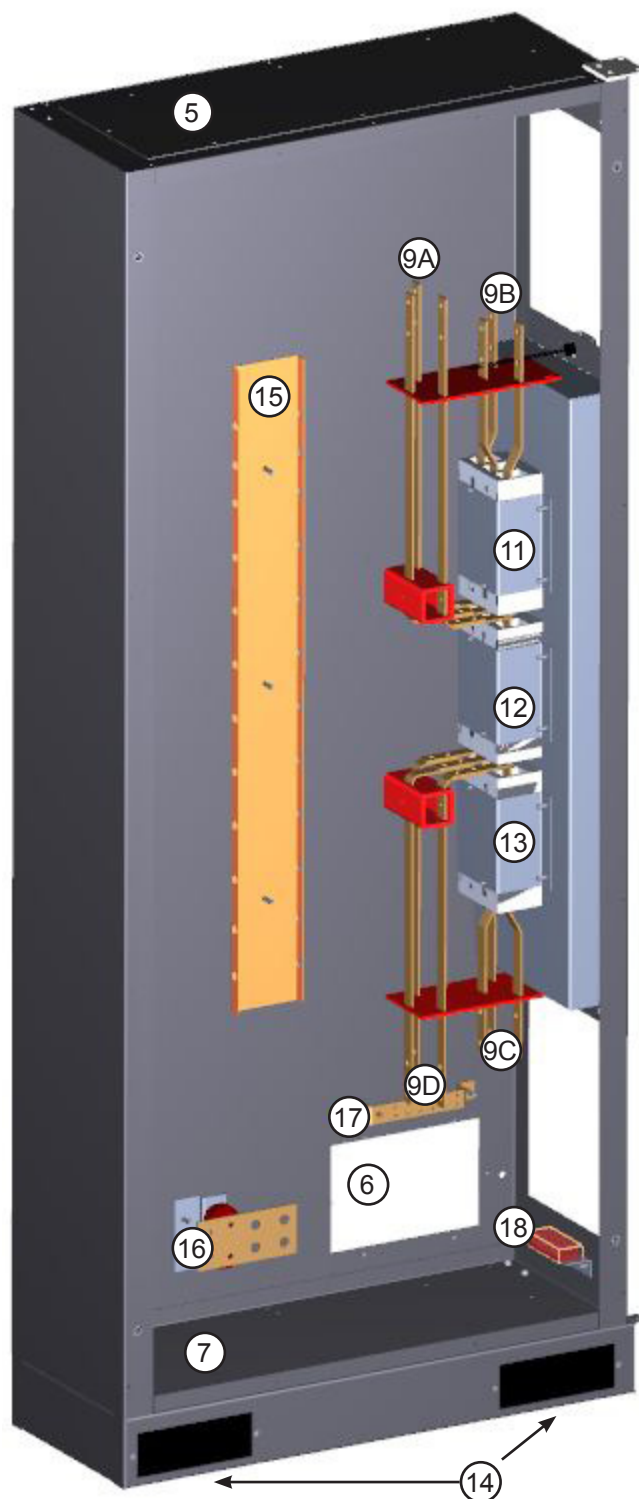
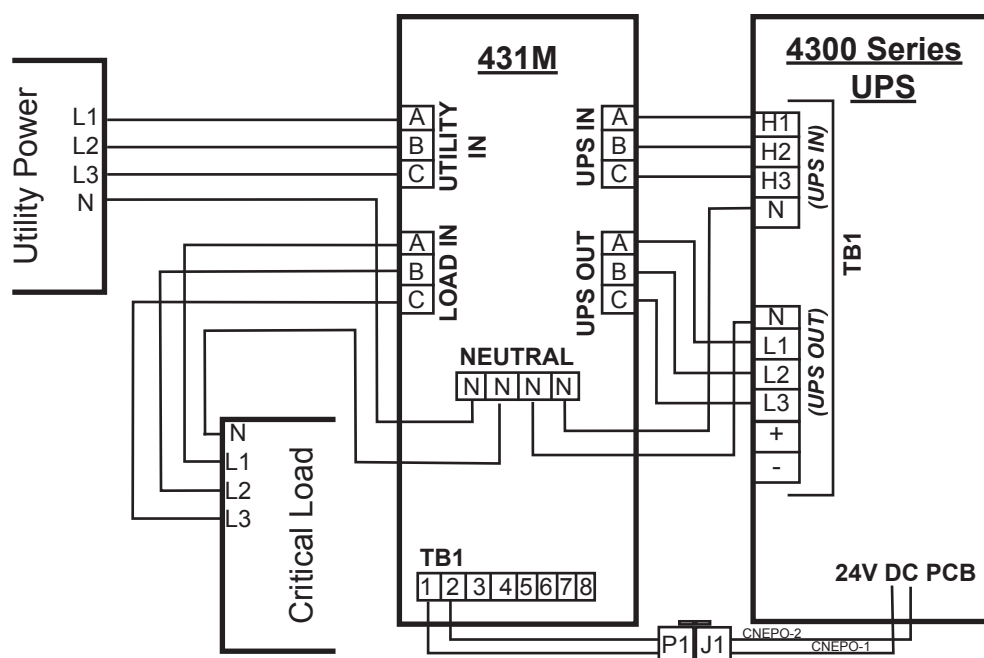

Figure 12-2 - 431M - Internal Arrangement
Figure 12-6 - Power Cabling Between Auxiliary Cabinet, MBS, and UPS
Figure 12-1 and Figure 12-2 show the external and internal components of the 431M.
10. Run the power cables from UPS power terminals TB1 to 431M Cabinet per Figure 12-6.
11. Connect 431M Utility Bus Terminals (Figure 12-2 #9A) to the Utility Power
12. Connect 431M Load Bus Terminals (Figure 12-2 #9D) per Figure 6.
13. Connect 431M UPS IN Bus Terminals (Figure 12-2 #9B) per Figure 6.
14. Connect 431M UPS OUT Bus Terminals (Figure 12-2 #9C) per Figure 6.
15. Connect the Neutral cables to the Neutral Bus stub, Figure 12-2 #16 and Figure 12-6.
16. Connect the Mechanical Interlock Solenoid power plug, TB1 P-1(Figure 12-2 #18) to the UPS 24V power terminal jack J1 in the UPS .
17. Connect the Ground wires (#2 AWG or better) to the ground bus, Figure 12-2 #17.